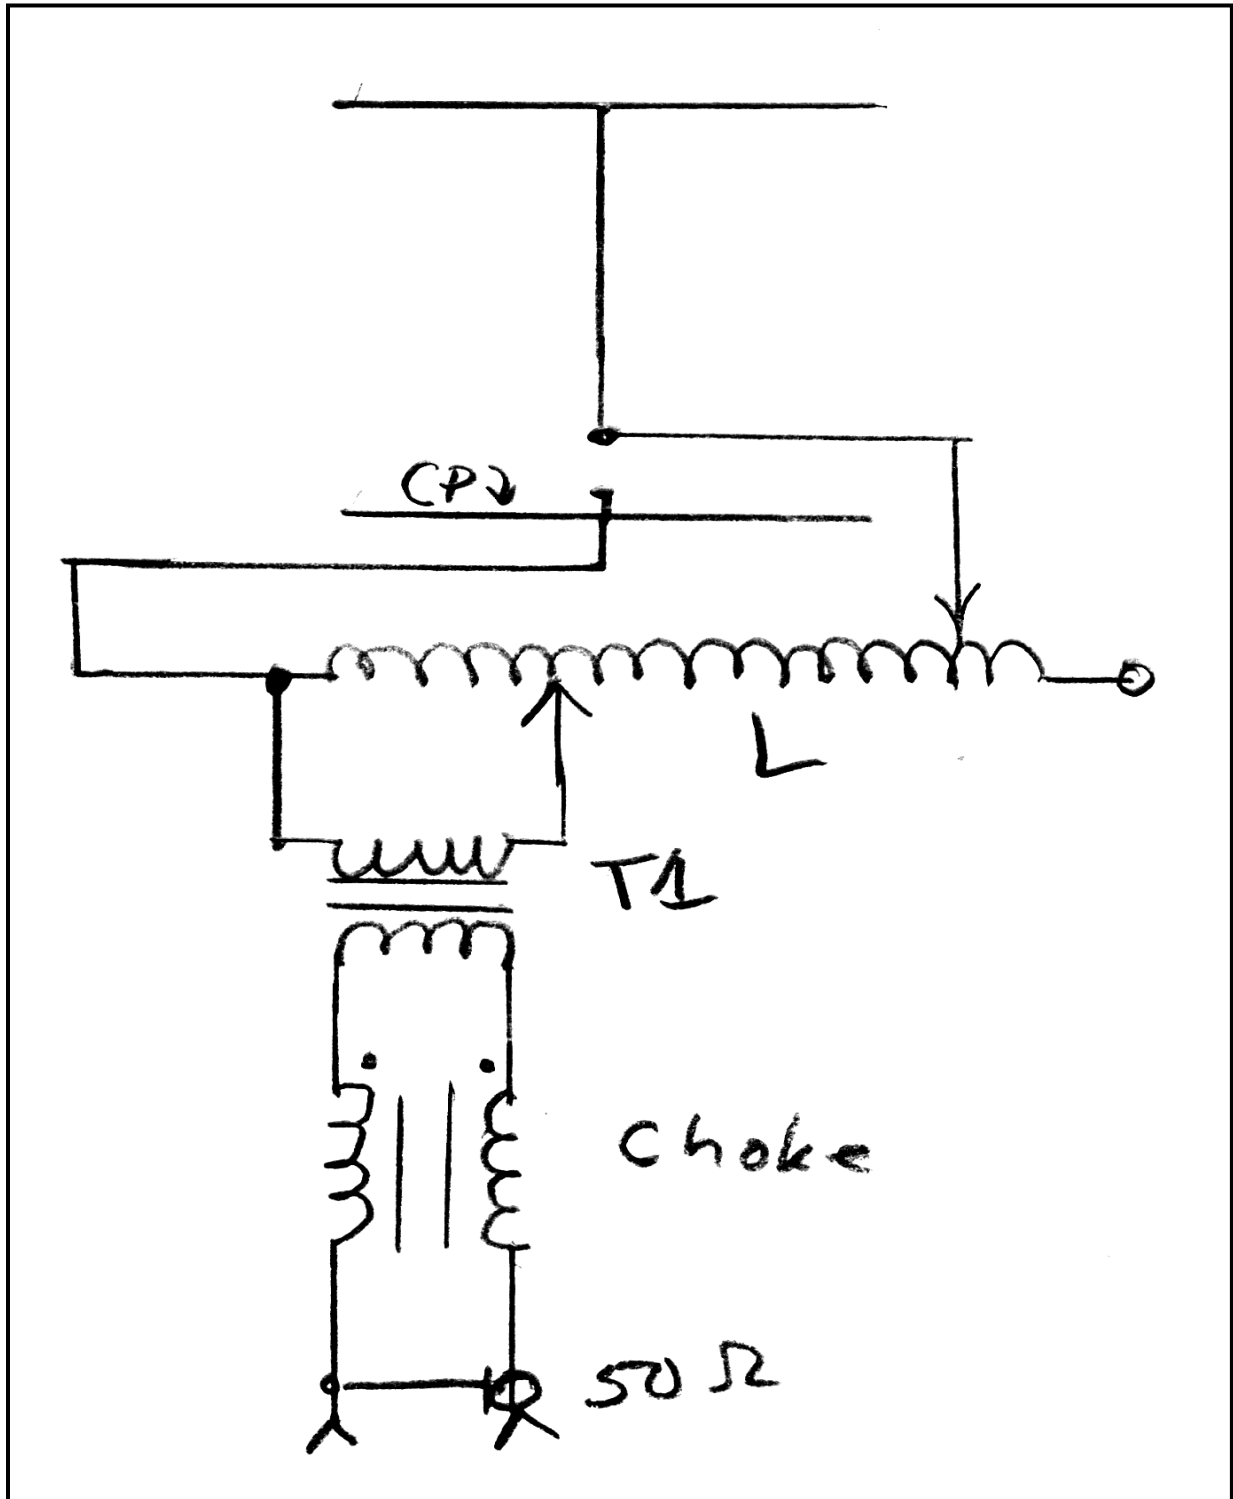
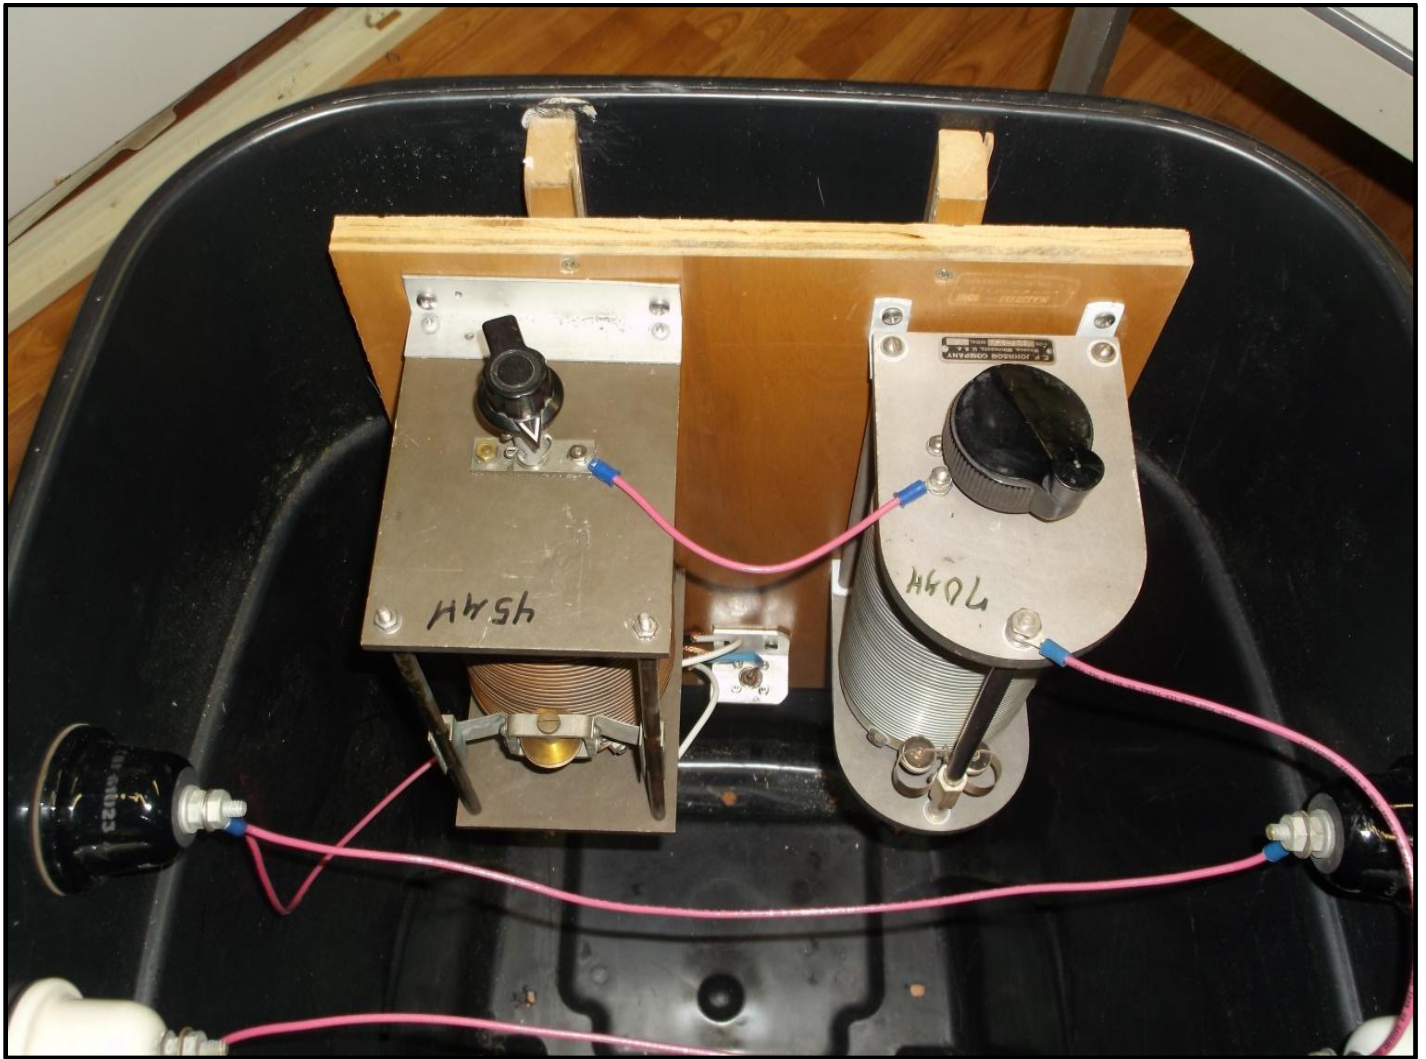
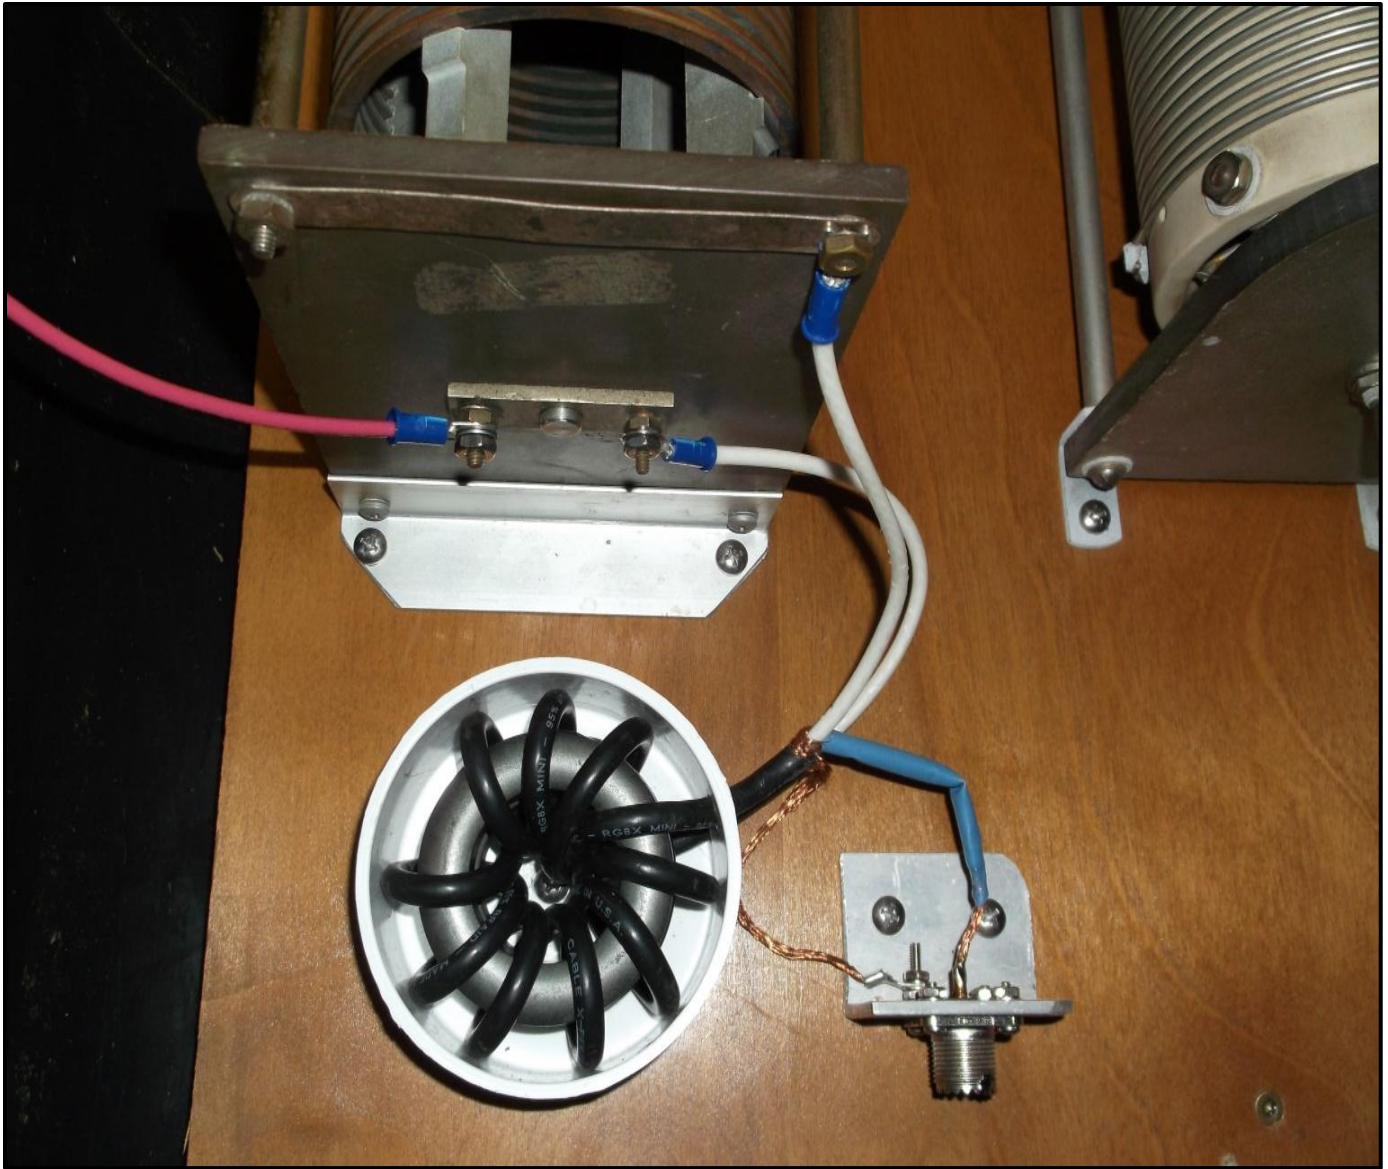
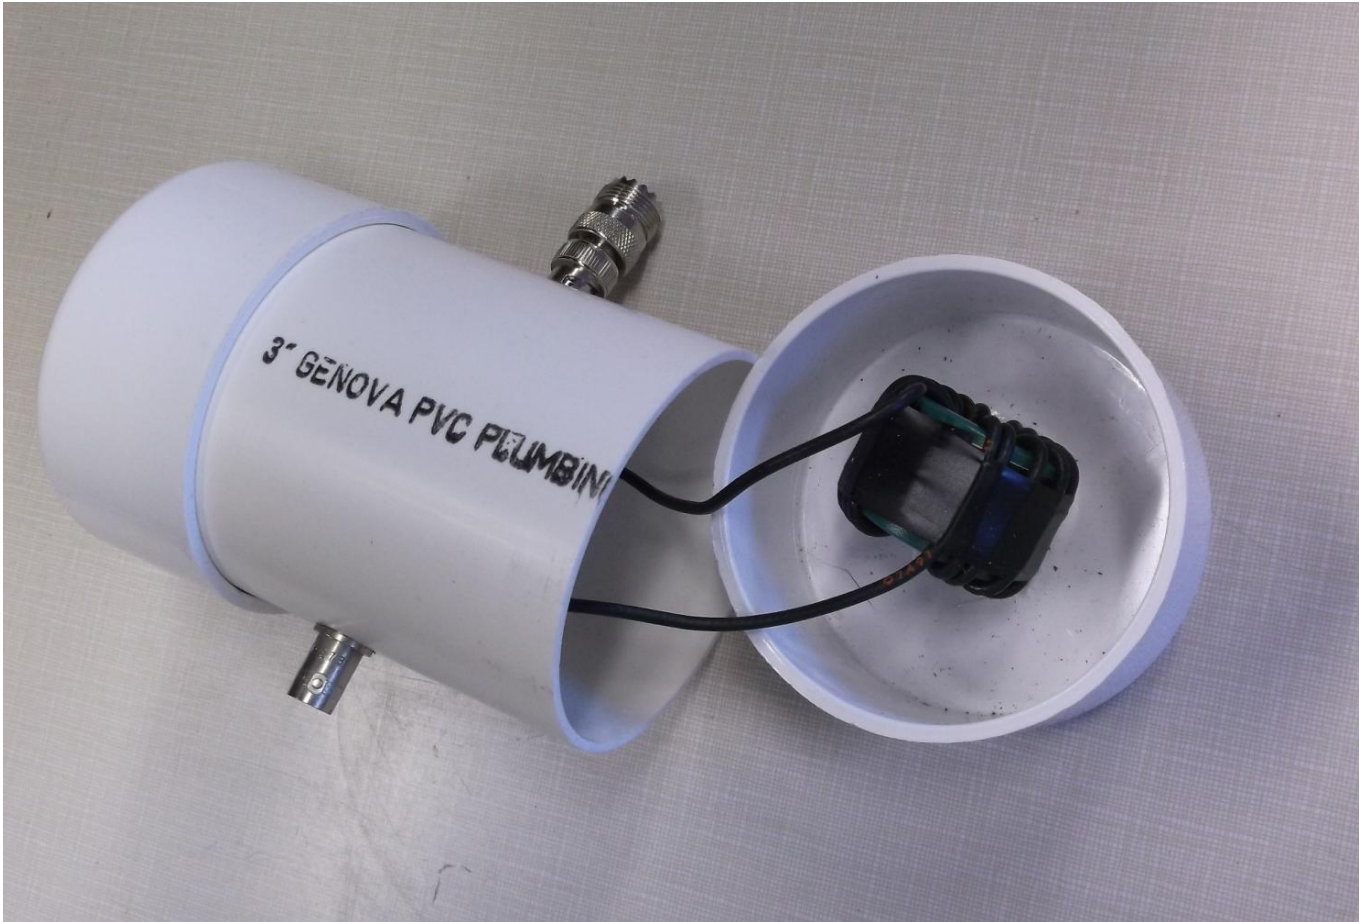

Figure 8 - N6LF matching-isolation scheme.
Figure 9 - Roller inductors.
Figure 10 - Close-up of T1
Figure 16 - Isolation choke partially disassembled.
The antenna feed has to be decoupled (isolated) from ground but still provide a ground referenced 50Ω feedpoint for the transmitter. The scheme I used is shown in figure 8.
My inductor (L) is actually two roller inductors in series but one could also use a single inductor with taps to accomplish the same end. One inductor is adjusted to resonate the antenna and the other is adjusted to provide 50Ω across the "tap". HV isolation is provided by T1 which has ten turns for RG8X wound on a stacked pair of 2.4" FairRite type 77 material ferrite cores (Mouser P/N 623-5977003801). The physical arrangement is shown in figures 9 and 10. T1 has a 1:1 turns ratio. The center conductor forms the secondary winding which is connected to the antenna. The shield forms the primary winding which is connected to the UHF jack and then connected to the feedline back to the transmitter. From the coax used for winding there is $\approx 50\text{pF}$ of primary-secondary capacitance ($\approx 6700\Omega$ @ 475 kHz). The purpose of the choke shown in figure 8 is to help isolate this parasitic capacitance. However, I ran out of suitable cores so the choke is not present figure 10. The cores are on order!
The first step in tuning the antenna was to measure the impedance at the feedpoint over a range of frequencies (0.4-1.0 MHz). A vector network analyzer (VNA2180) was available which can provide very accurate measurements but there is a problem common to all antennas with an isolated counterpoise: the measuring device has to be isolated from the antenna. The VNA is unbalanced and referenced to ground! The answer was to fabricate an isolation choke like that indicated in figure 9. The choke I used is shown in figure 16.